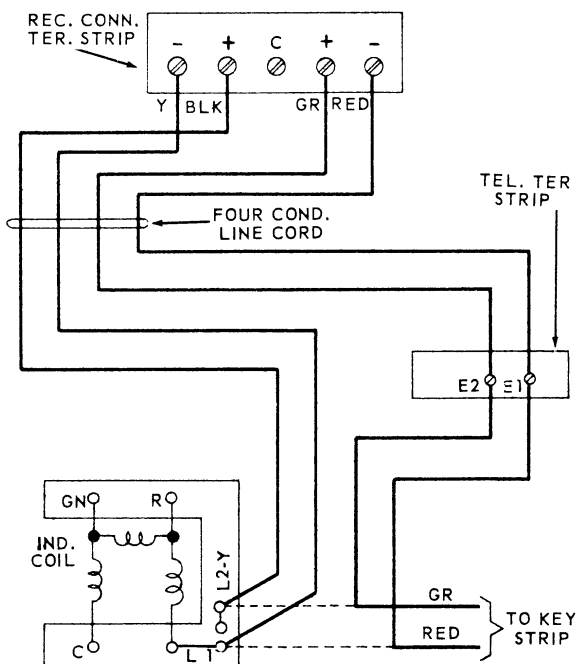

Fig. 9. Modifications of Type 400 Key Telephone.
3.09 Modify the 400 telephone set with 1A, 10A, 1A1 and 10A1 wiring per Fig. 9.